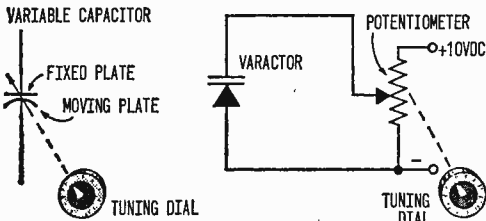

Fig. 1. Mechanical operation of variable capacitor contrasts with a voltage-controlled varactor that requires only a single pot to control DC voltage source.
**Vive La Différence.** The impressive benefits offered by the varactor, as we'll see in a moment, stem from its operation. Shown in Fig. 1 is the standard variable capacitor vs. the varactor. The variable obtains its capacity by two sets of metal plates separated by air. By turning the dial, you change the capacity in mechanical fashion as the movable plates cover more or less
Let's check the varactor in Fig. 1 for comparison. (That symbol is not yet standard, but it usually resembles a regular diode plus a capacitor.) Something new has been added: a source of voltage (10 VDC) and a potentiometer for controlling voltage to the varactor. It is the DC voltage—not moving metal plates—that varies the capacity. Thus the potentiometer serves as the tuning knob.